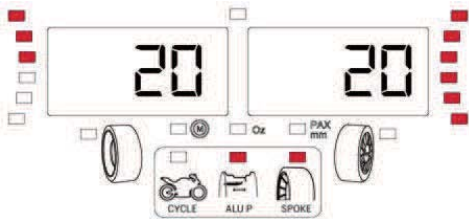

Figure 29c
8. Slowly rotate the wheel by hand to a weight application position, (Figure 29c).